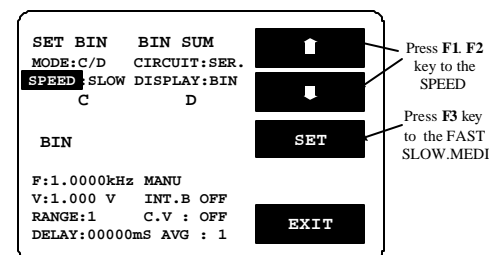

Figure 8-4
- Press F3 key to select FAST, SLOW or MEDI shown as Figure 8-4 below.